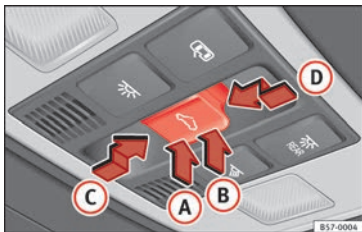

Fig. 132 On the interior roof lining: sunroof button.
The button  **Fig. 132** has two levels. The first level switches the sunroof to the tilted position, opening or closing it fully or partially.
- *Sunroof*: within approx. 5 seconds of having activated the anti-trap function, press the button **☁»» Fig. 132** to the second level in the direction of arrow **»» Fig. 132 ①** until the sunroof closes completely.